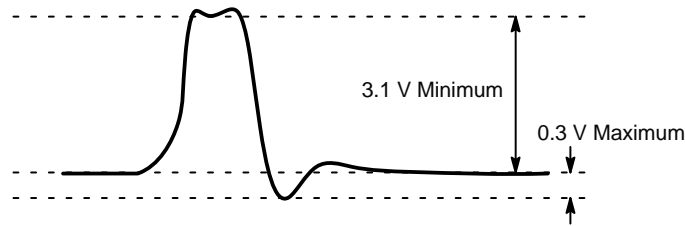

Figure 11. RG Clock Overshoot
21. Reset Clock Operation: The RG1, RG23 signals must be capacitively coupled into the image sensor with a 0.01 μF to 0.1 μF capacitor. The reset clock overshoot can be no greater than 0.3 V, as shown in Figure 11, below.